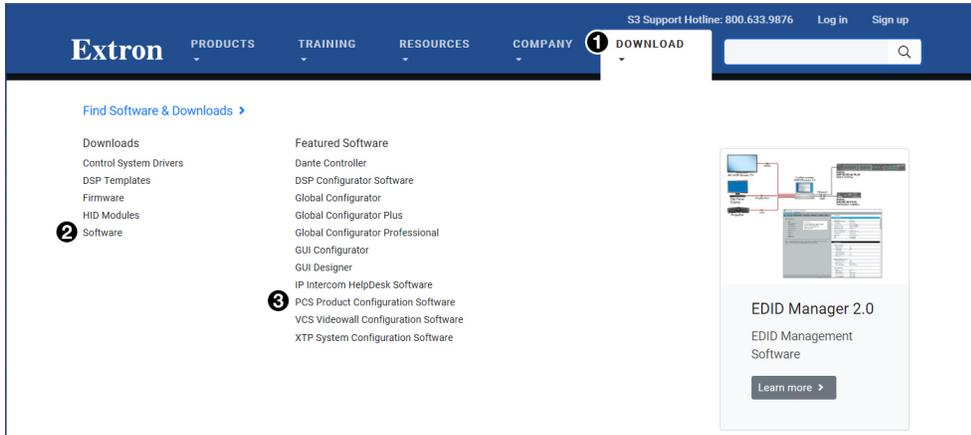

Figure 5. Software and Firmware Links on Download Page
1. Mouse over the **Download** tab at the top of the **Extron website** (see figure 5 , ①).
For software, either click the **Software** link (②) in the first column or, if the software is listed, click directly on that link (for example, see the PCS link in figure 5, ③).